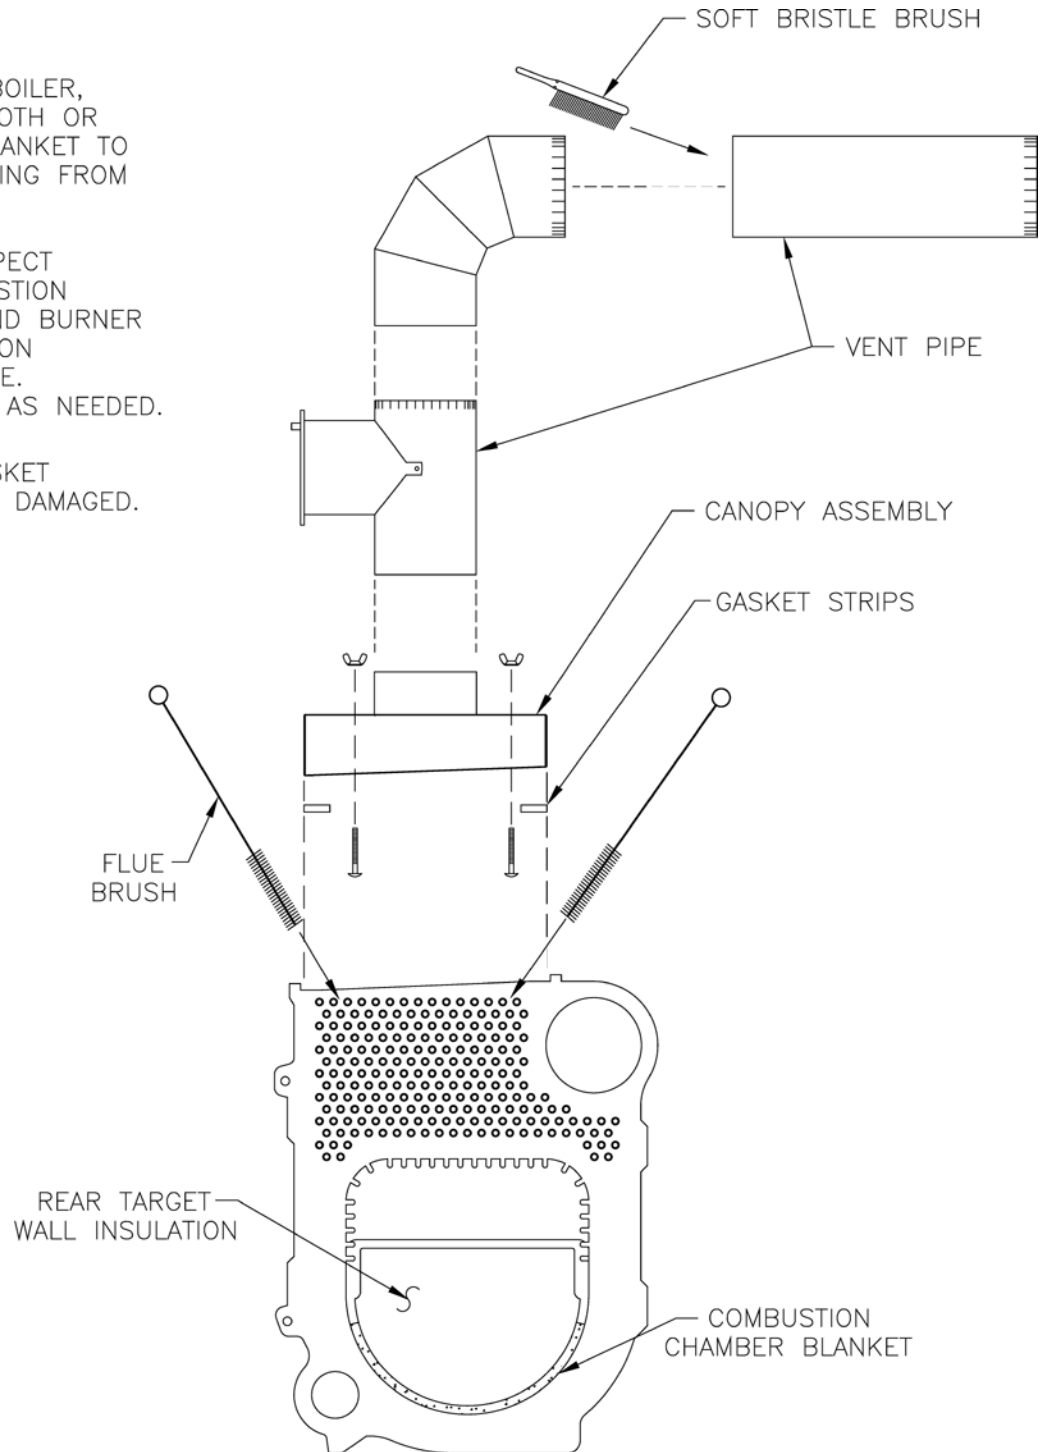

Figure 31: Cleaning of Boiler Flueways
A. CLEAN THE FLUEWAYS (See Figure 31).